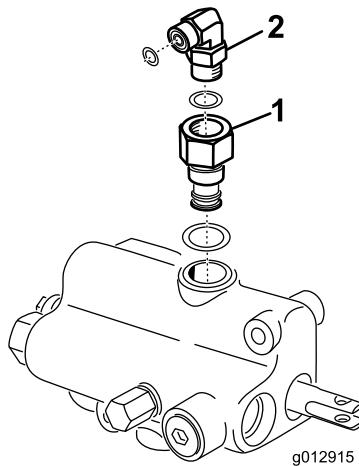

Figure 21
31. Thread the power beyond sleeve fitting into the opening in the top of the valve (Figure 21).
32. Thread a 90 degree fitting into the sleeve fitting on the valve and position as shown in Figure 21.